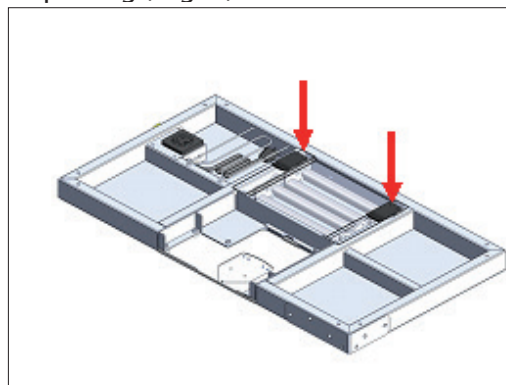

Fig. 20
- Fold the table; insert the pinning sheets (Fig 20) into the quick fasteners of the tool box (Fig 21). For transporting (Fig22).